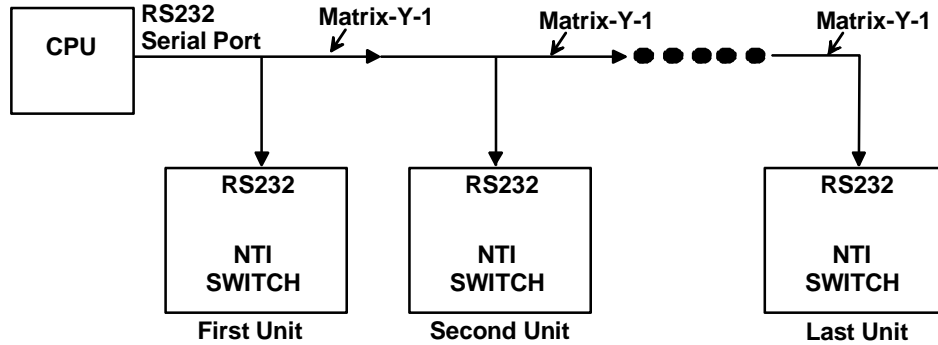
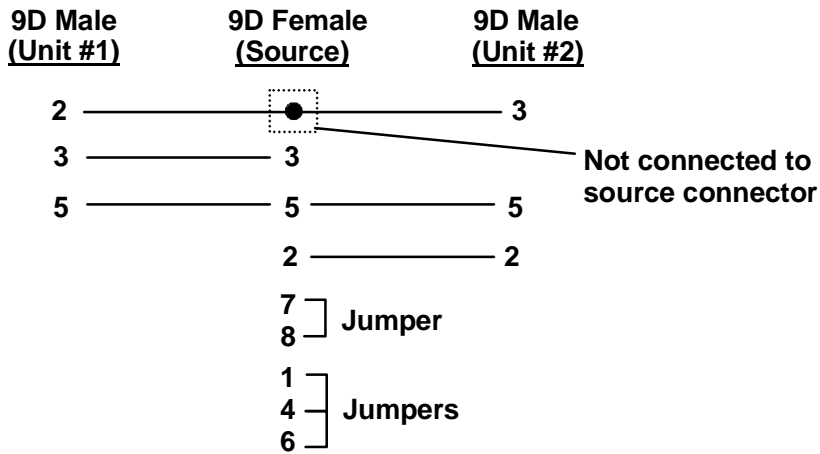

Figure 15- RS232 connection with Matrix-Y-1 cable
Figure 16- Matrix-Y-1 wiring schematic
**Note:** The RS232 connection on the switch may only have a single 9 pin "RS232" female connector. In this case, in order to connect multiple NODEMUX units together, a Matrix-Y-1 cable must be used. (see Figure 15). No loop back plug will be used with this configuration. See Figure 16 for the pinout of the Matrix-Y-1 cable.